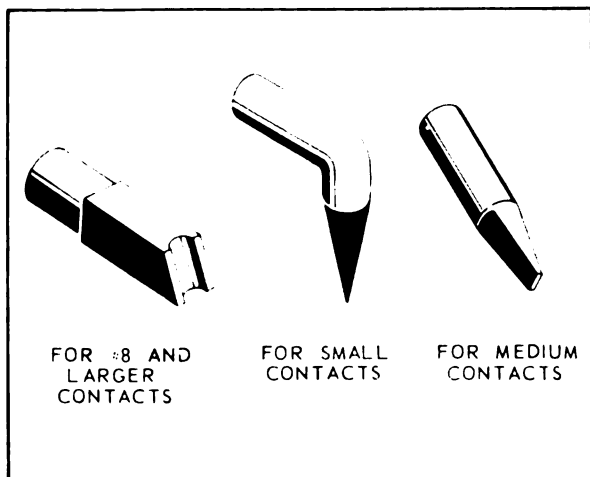

Figure 3-29. Soldering Iron Tip Shapes
e. Select a soldering iron tip of a shape to provide good heat transfer. A large contact area touching the solder cup will help to produce a good connection quickly. See figure 3-29 for suitable soldering iron tips.